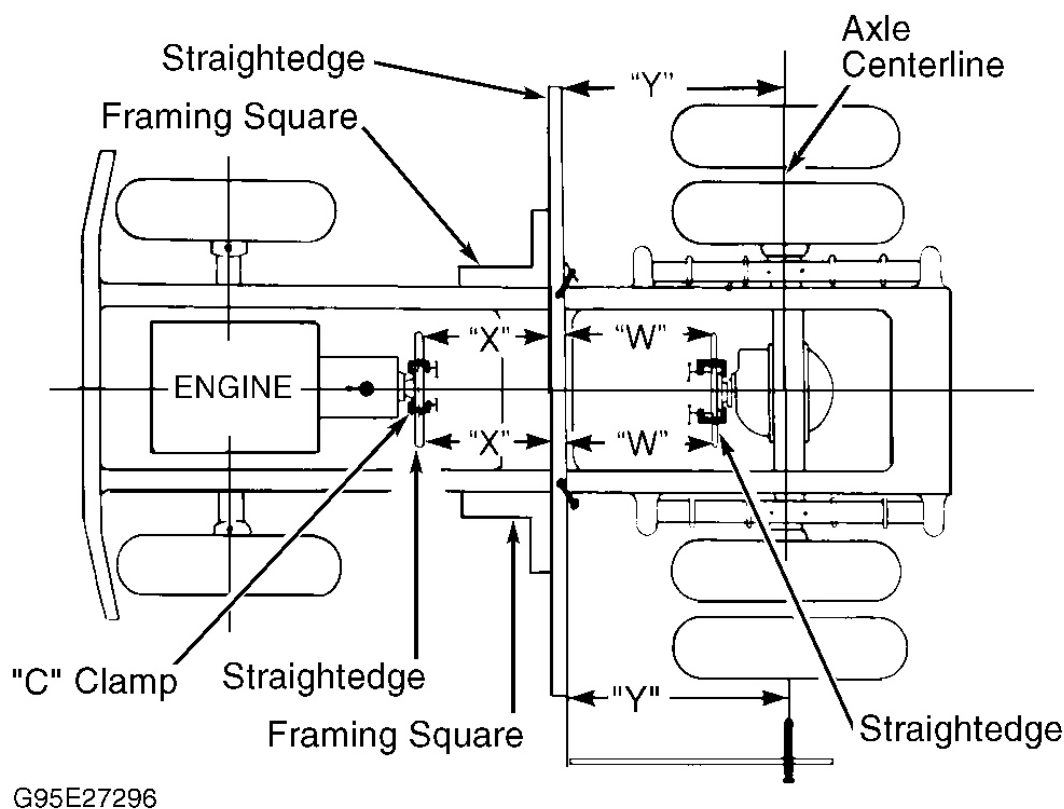

Fig. 8: Checking Horizontal Alignment
10. To make horizontal alignment checks, set up straightedges. See **Fig. 8** . Set transmission output flange horizontal and clamp straightedge to flange in a horizontal plane. Repeat procedure with drive pinion flange. Ensure that flanges are horizontal by checking angle of straightedge with spirit level.
12. Measure distance "X" at each side. If both measurements are not within 1/16" (1.6 mm) of each other, transmission flange is horizontally misaligned. See **Fig. 8** .